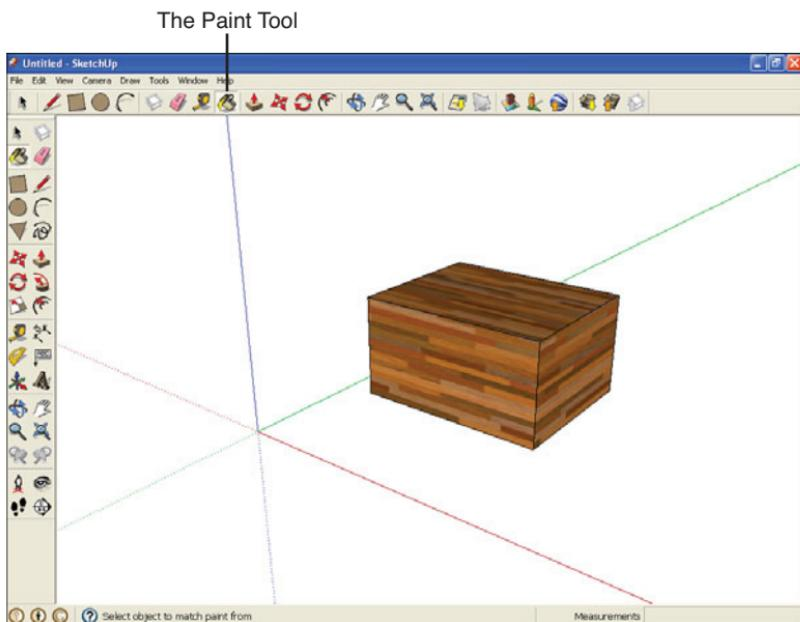

FIGURE 7.2 A block of wood created using the Paint tool.
Or is it? It certainly doesn't look like a cube of wood. Now take a look at Figure 7.2, where we've used the Paint tool (the tool with the paint bucket icon) and painted the block with a wood texture—if you can see the
7. Select the **Paint tool** in the toolbar (refer to Figure 7.2).